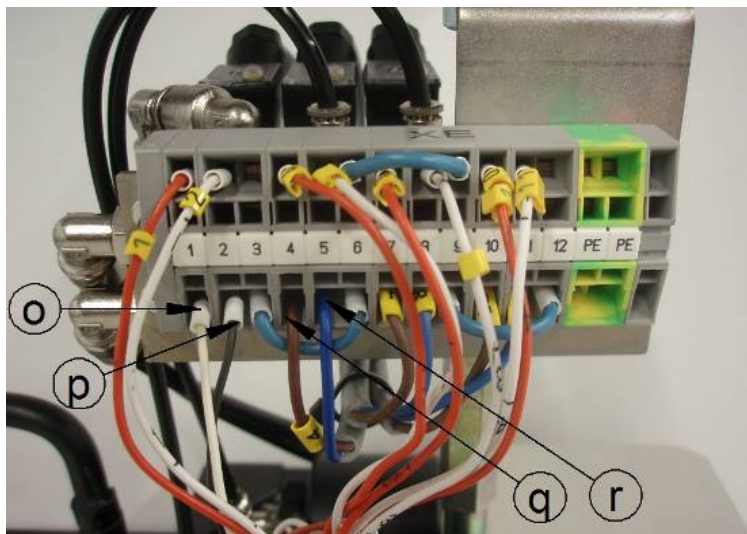

Figure 24 SKF Maxilube hydraulic part before new connections
- 7 Detach the wires of the low level switch, i.e. o: white and p: black, see Figure 24. Remove the cable of the low level switch from the SKF Maxilube hydraulic part. Wires q (brown) and r (blue) will remain connected in parallel with new wires.